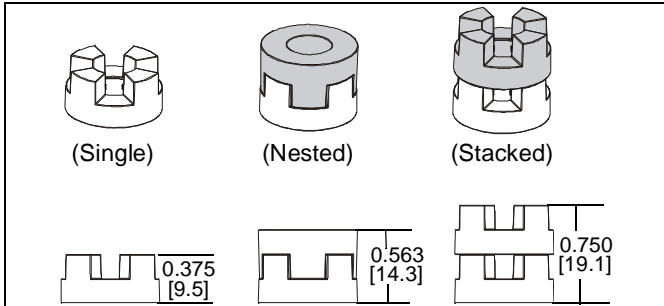

Figure 7
**IMPORTANT ! :** The M8 screws do **NOT** require a washer. Use the universal washer (PN) only with M4, M5 and M6 screws.
**NOTE:** The nesting spacers (PM) may be used separately, or put two together in different configurations to create different size spacers. (See Figure 7)